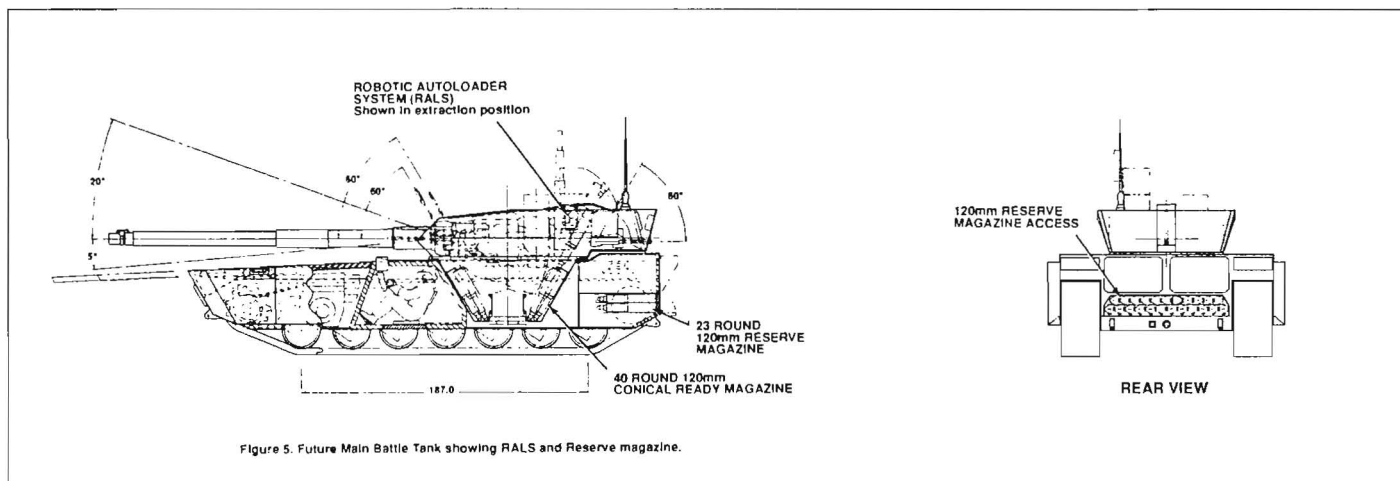

Figure 5. Future Main Battle Tank showing RALS and Reserve magazine.
Figure 5 shows a conceptual design of an ALS for a FMBT based on the TTB autoloader prototype. This concept was a winning entry in a contest held by *Armor* magazine for the design of a FMBT (their winning entry was printed in the May 1994 *Museum Ordnance*). This innovative derivative provides continuous theoretical 15-16 rounds/minute loading rate capability. The system is automatic, compact, computer controlled, electrically operated, lightweight, highly reliable and remotely operated. It stores forty (40) rounds of all types which are readily available in a rotary, conical shaped magazine with anti-fratricide provisions. The autoloader is integrally installed in an unmanned, turreted "Weapon Station" with maximum protection for the crew and ammunition by way of compartmentalization and positioning of warheads as low as possible in the hull, adjacent to "blow-off" panels.